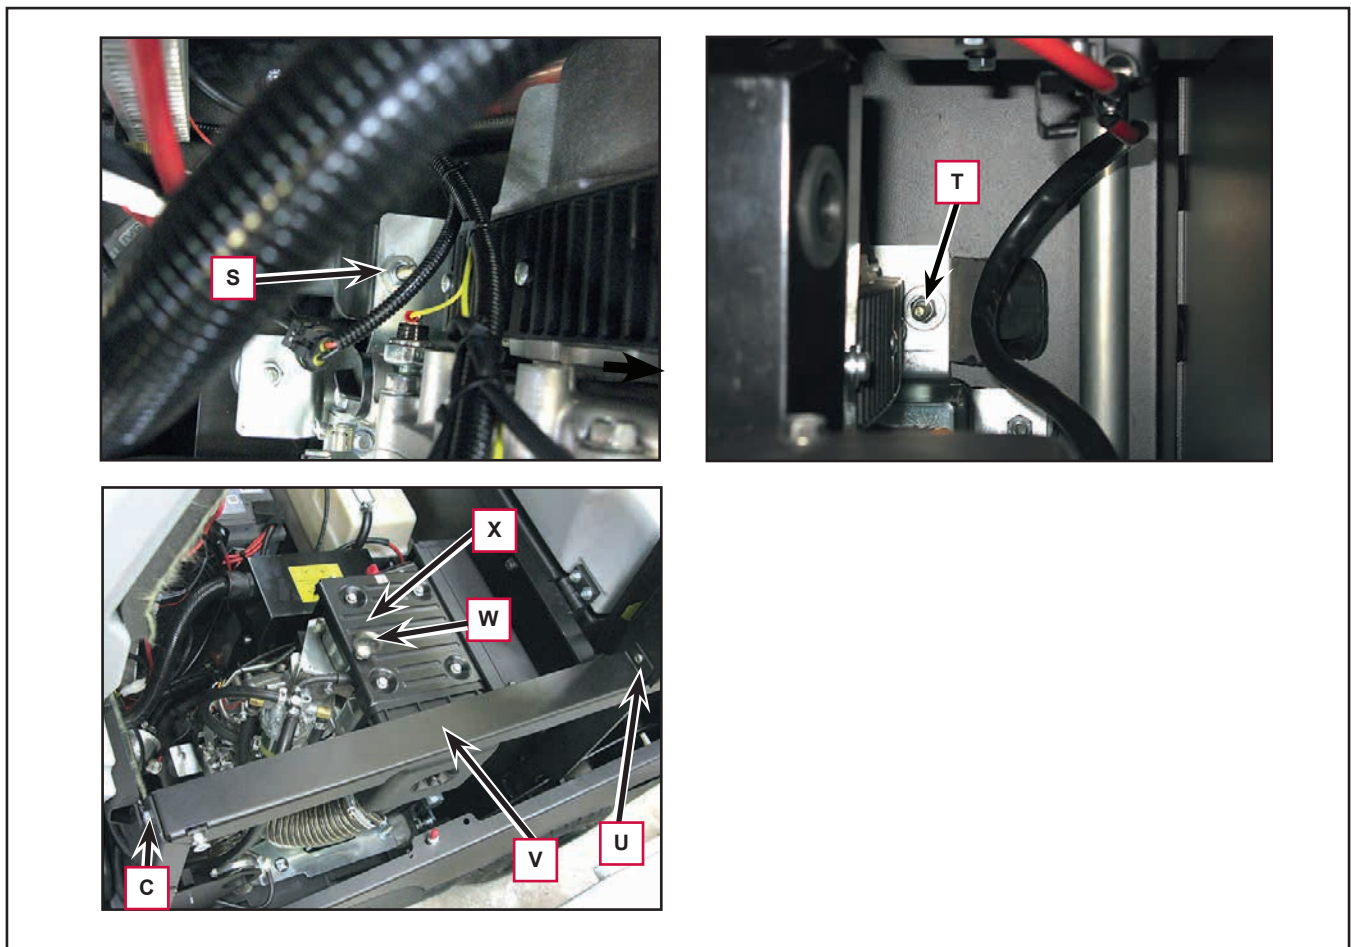

Figure 14
15. Unscrew the right-hand retaining nuts (S, Figure 14) and (T) on the engine/alternator unit.
16. Unscrew the nuts (U) and remove the cross-member (V).
17. Screw down the lifting eyebolt (W) onto the Diesel engine (X), then use appropriate lifting equipment to lift and remove the engine/alternator unit (weight of assembly approx. 55 Kg).